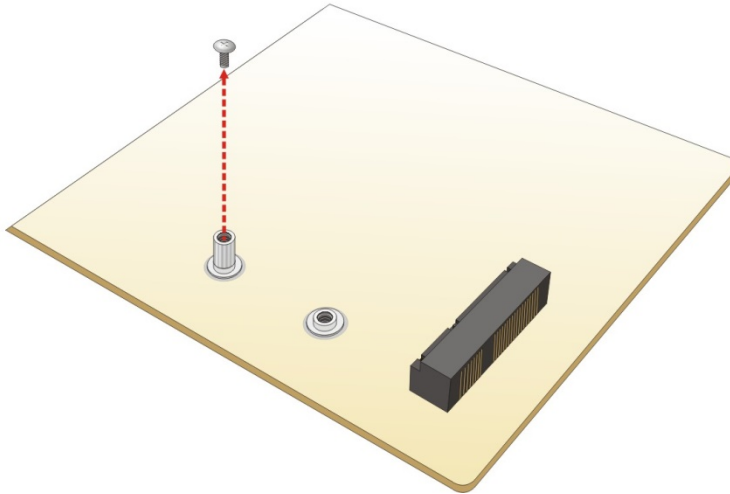

Figure 3-12: Removing the Retention Screw
Step 4: Remove the retention screw as shown in **Figure 3-12**.